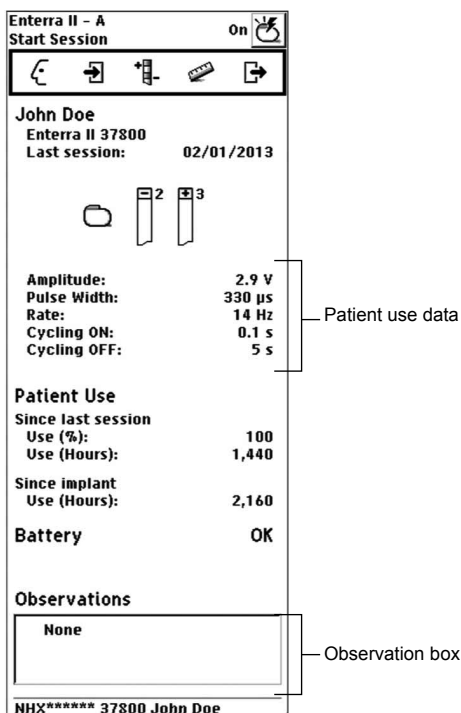

Figure 17. Start Session screen.
Review patient use information and neurostimulation system information on the **Start session** screen (Figure 17). The neurostimulator collects patient use data between sessions.
2. View the following patient use data (Figure 17):
2. Review the Observations box for significant system events that have occurred (Figure 17). The observations are brief notifications (eg, Check INS clock, Stimulation off) that need to be investigated (see Table 10 on page 50).